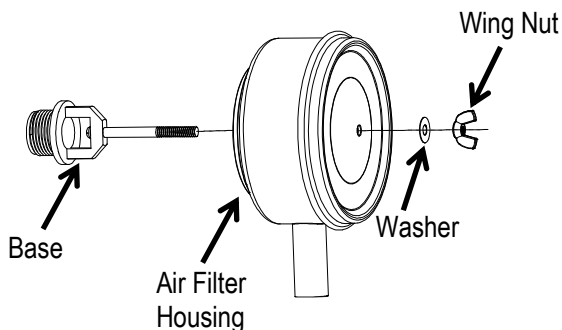

Figure 2
3. Unscrew wing nut, remove washer and air filter housing from base. (Figure 2)